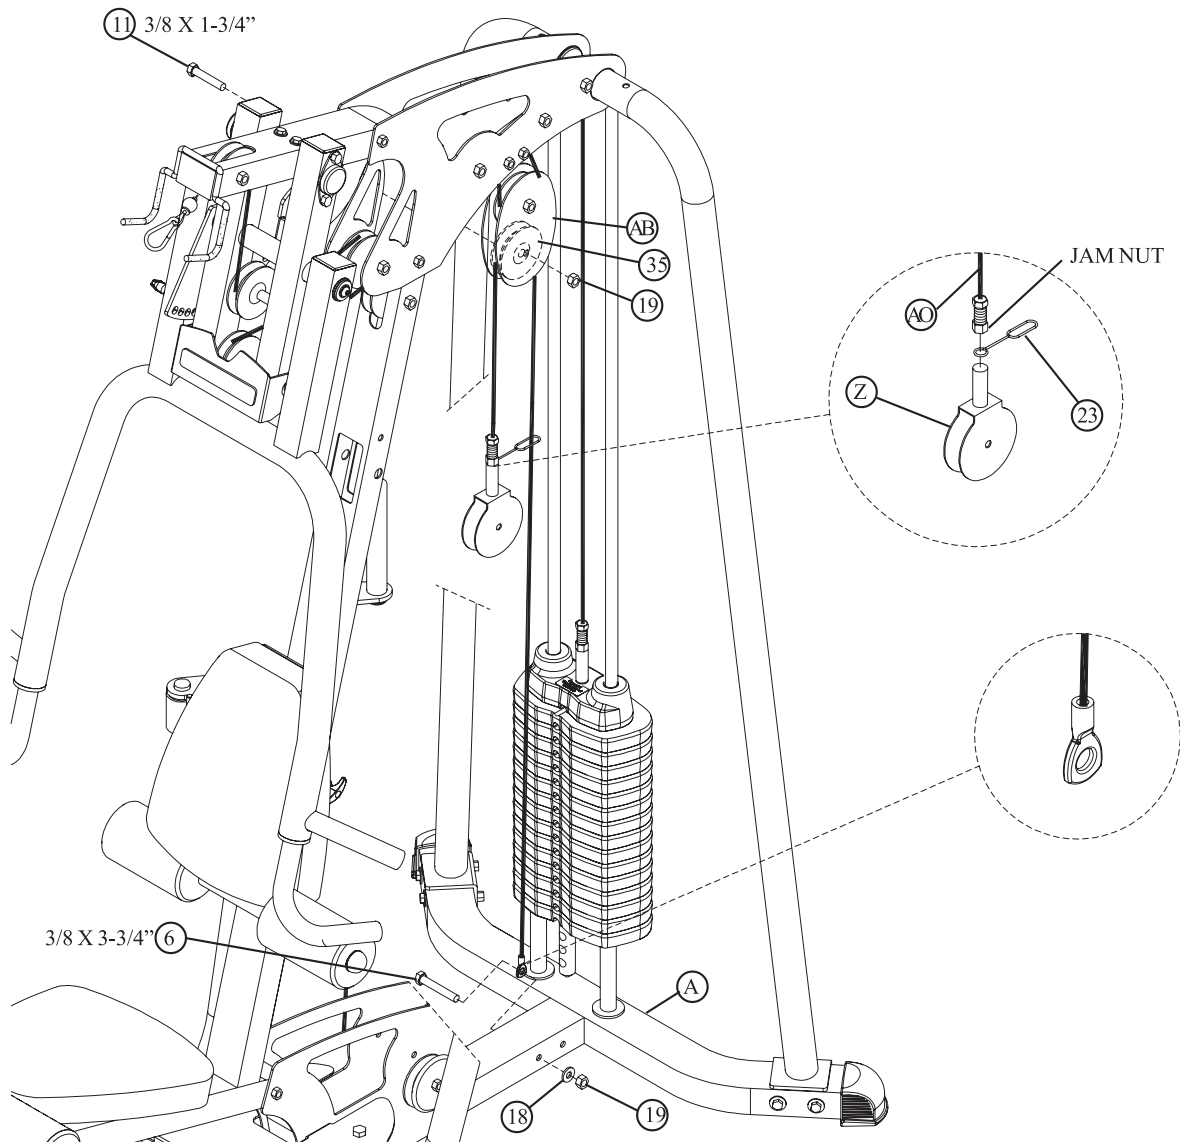

**FIGURE 18**
- Securely assemble the PEC FLY CABLE (AP) to the LEFT PEC ARM (F) as shown in FIGURE 18.
- Assemble one 3-1/2" PULLEY (35) to the PEC PLATE (O) using one 3/8 X 3-1/4" BOLT (7), one "L" CABLE RETAINER (P) and one 3/8" SILVER LOCK NUT (19). See FIGURE 18. **(Note: Loop the PEC FLY CABLE (AP) around the PULLEY prior to assembling the PULLEY to the PEC PLATE.)**
- Assemble two 3-1/2" PULLEYS (35) to the BASE PLATES (C) using one 3/8 X 5-3/4" BOLT (4), two PULLEY GUARDS (Q) and one 3/8" SILVER LOCK NUT (19). See FIGURE 18. **(Note: Loop the PEC FLY CABLE (AP) around the PULLEY prior to assembling the PULLEY to the PEC PLATE.)**
- Route the PEC FLY CABLE (AP) around one 4-1/2" PULLEY (36) and assemble the 4-1/2" PULLEY (36) to the DOUBLE FLOATING PULLEY BRACKET ASSEMBLY (AA) using one 3/8" X 1-3/4" BOLT (11) and one 3/8" SILVER LOCK NUT (19). See FIGURE 18.
- Securely assemble the PEC FLY CABLE (AP) to the RIGHT PEC ARM (G) as shown in FIGURE 18.